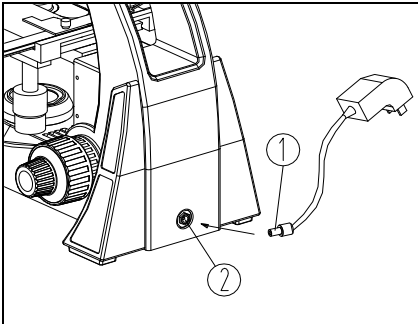

Fig.6
2. Insert one end of external power adapter ① into the power socket ② of the microscope. Then insert the other end into the power supply socket and make sure well-connected (See Fig. 6).